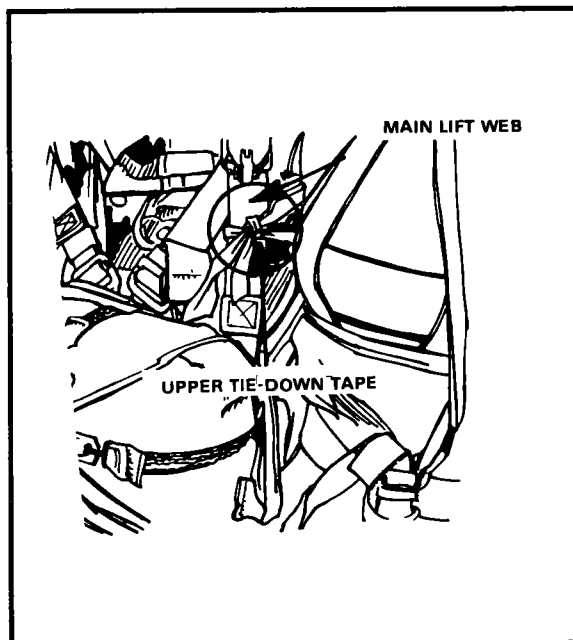

Figure 6-46. Upper tie-down.
c. The upper tie-down tape is routed around the left main lift web directly below the chest strap. It is tied snugly with a single-loop bowknot (Figure 6-46).